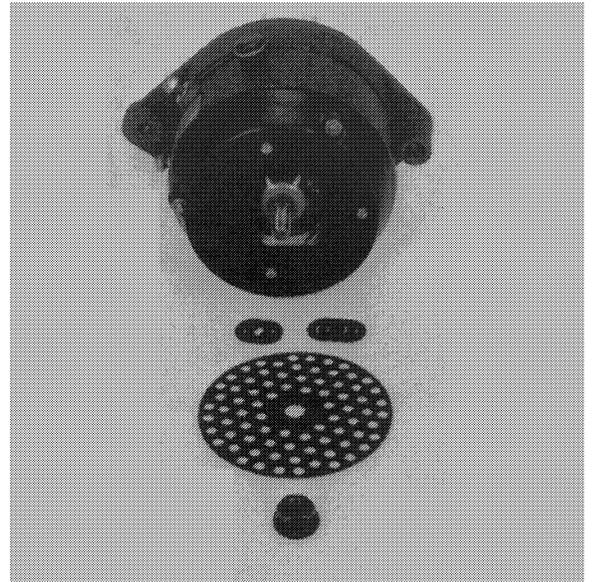

FIGURE 6
3. Lift off screen and hardened flat washers as shown in Figure 6.